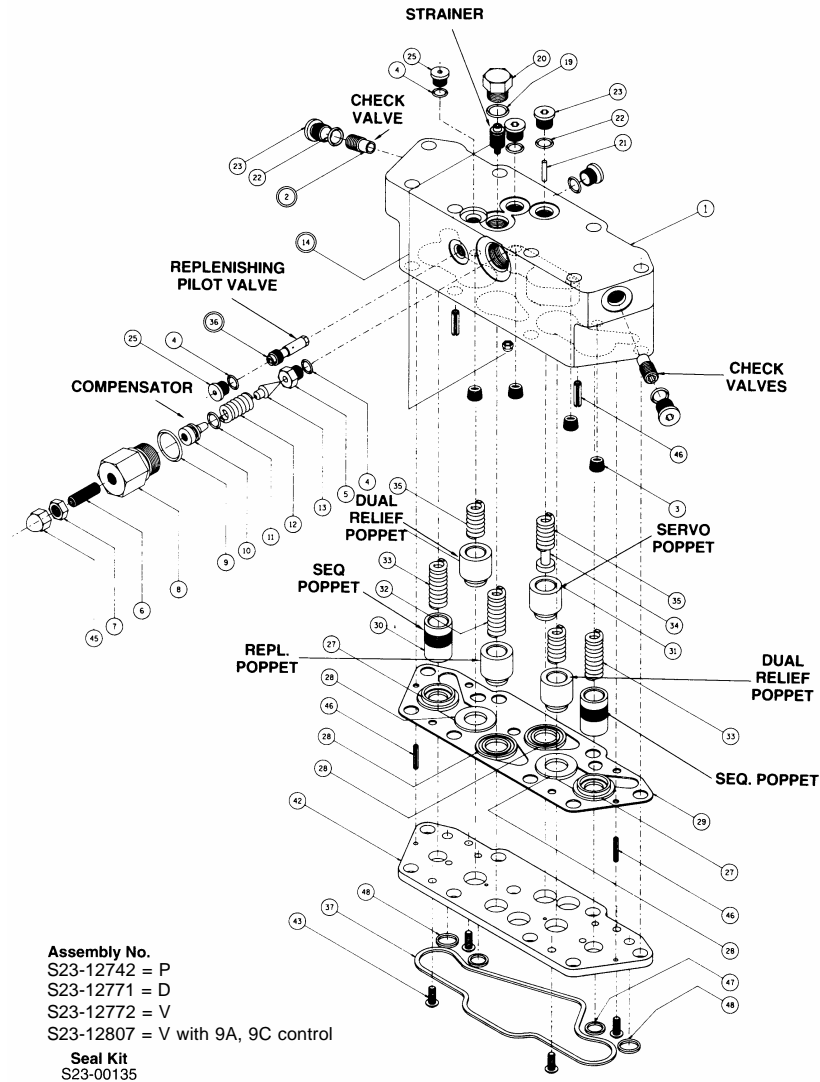

FIGURE 11
See Figure 11.
**PARTS LIST FOR FIGURE 11**